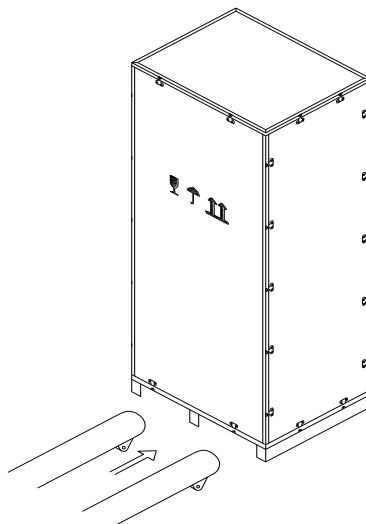

Fig.2-3 Transport to the designated site
Ensure there is at least 0.8m before the front of the cabinet so as to easily maintain the power module with the front door fully open and at least 0.5m behind for ventilation and cooling. The room reserved for the cabinet is shown in Fig.2-3.
2. Transport the equipment to the designated site by forklift, as shown in Fig.2-3.